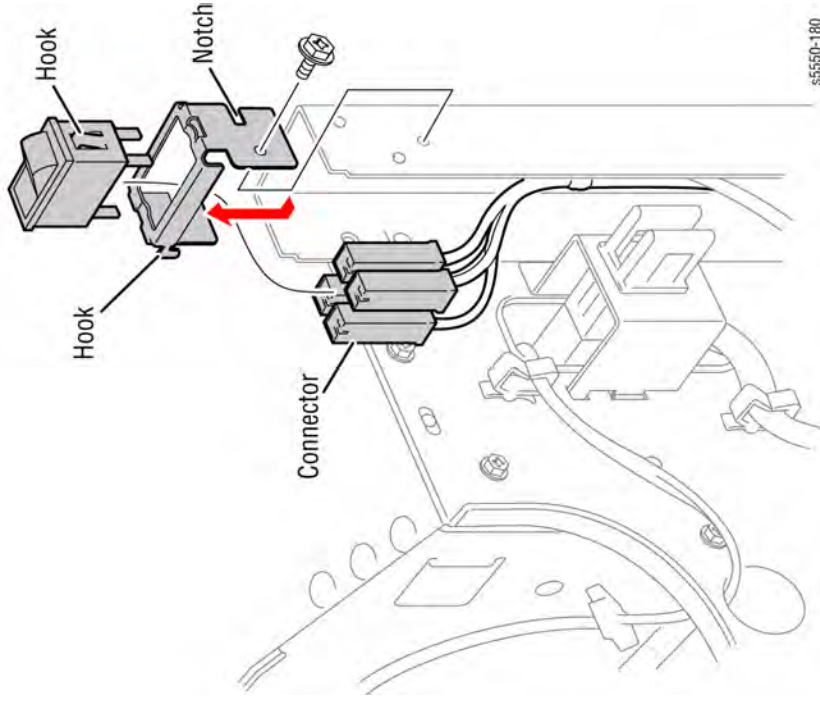

Figure 1 Removing the Power Switch
5. Release the hooks securing the Power Switch to the bracket as shown in Figure 1.